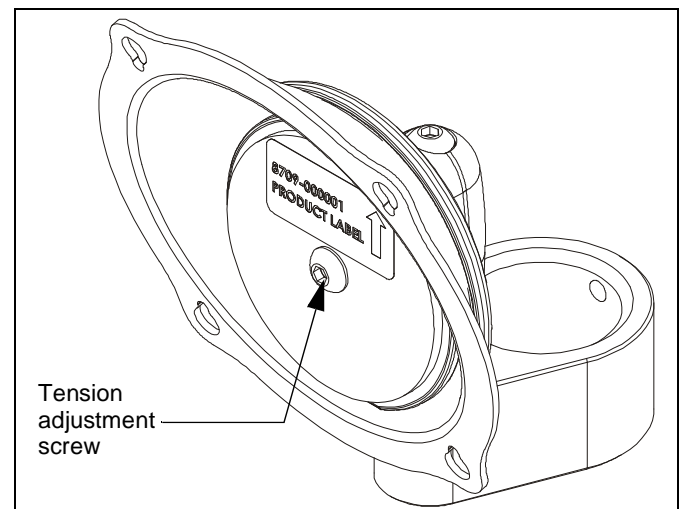

Figure 5
5. Using a hex head wrench turn the tension adjustment screw clockwise to increase tension, or counter-clockwise to decrease tension. (See Figure 5)